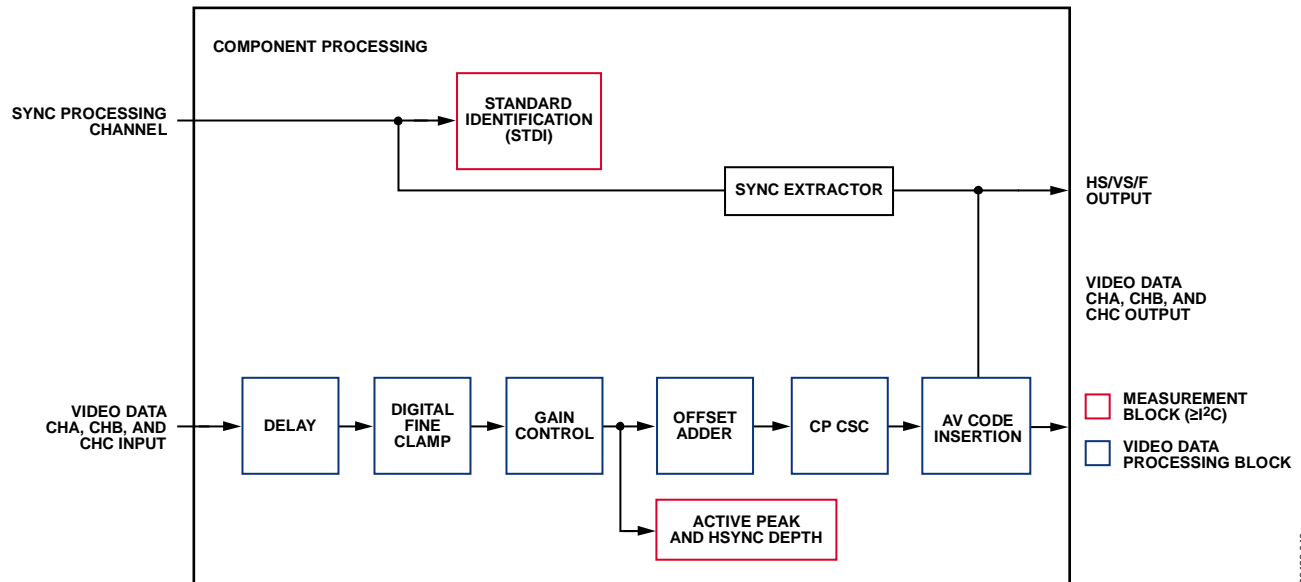

Figure 39. Component Processor Block Diagram
A simplified block diagram of the the component processor (CP) on the ADV7612 is shown in Figure 39. Data is supplied to the CP from the data preprocessor (DPP). The CP circuitry is activated under the control of [PRIM_MODE\[3:0\]](#) and [VID_STD\[5:0\]](#).